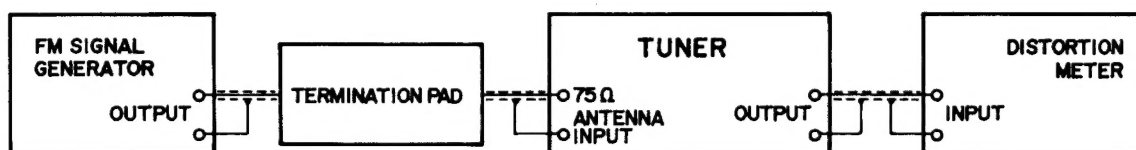

Fig. 11
- 1) Connect the various measuring instruments as shown in Fig. 11.